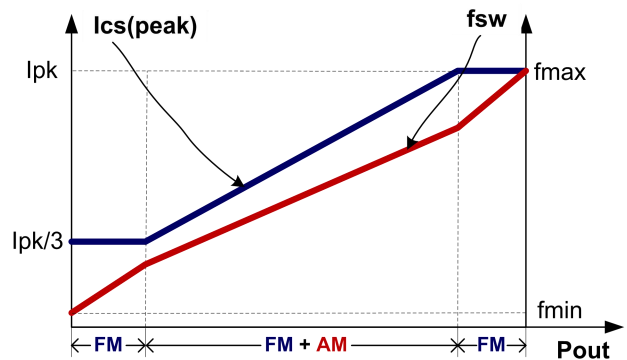

Fig.4
To meet the tight requirement of averaged system efficiency and no load power consumption, a hybrid of frequency modulation (FM) and amplitude modulation (AM) is adopted in DP1801KB which is shown in the Fig 4.